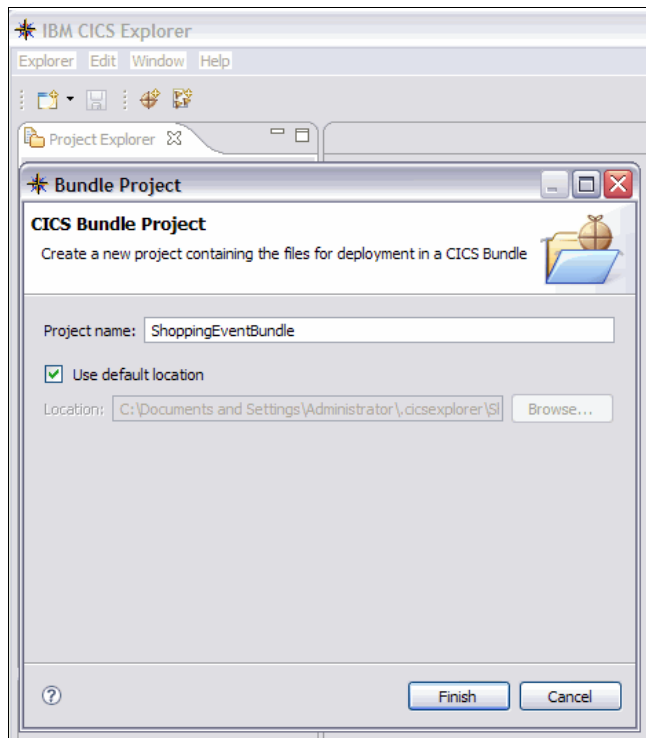

Figure 5-2 *ShoppingEventBundle*
2. Specify the project name, `ShoppingEventBundle`, as shown in Figure 5-2, and click **Finish**.